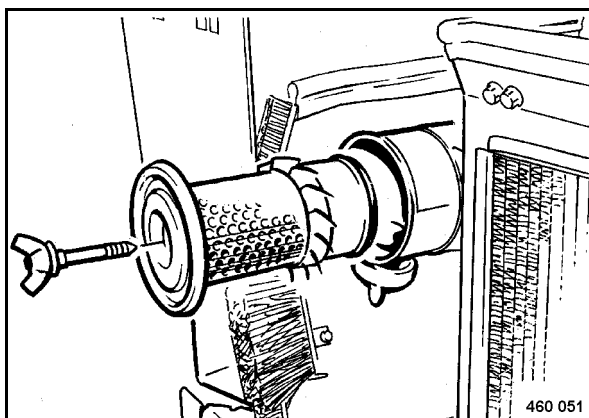

Fig. 88
- Unscrew the wing screw and take the air filter cartridge (Fig. 88) out of the air filter housing.